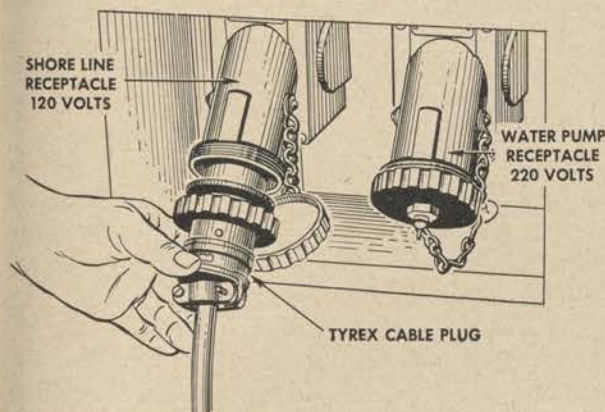

Figure 85. Connecting shore line.
(3) *Starting refrigerator when generators are not operating and when a shore line is available.* Connect shore line. (See fig. 85.) Place refrigerator control switch on main generator control
e. ELECTRIC STOVE. (1) *Controls.* The stove controls consist of a temperature control and control switch. The temperature control is located on the left-hand side of stove.
(3) *Starting electric stove when generators are not operating and shore line is available.* Connect shore line. (See fig. 85.) Place electric stove control switch on main generator control panel at ON position. Connect stove plug to wall receptacle.